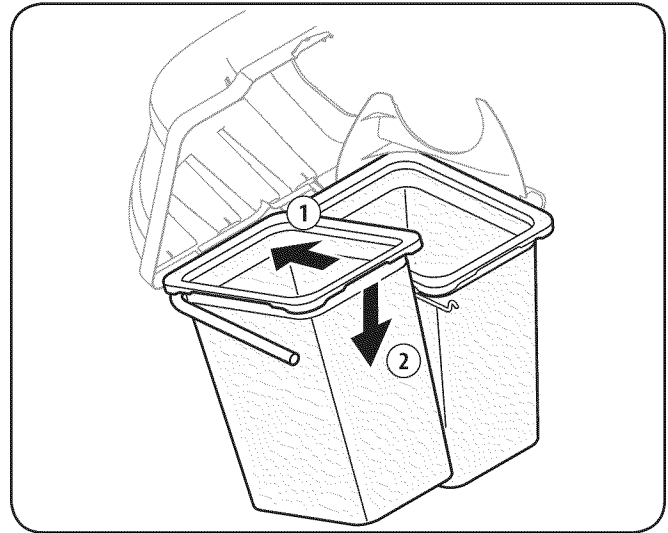

Figure 4-15
8. Install both bag assemblies with the tight mesh sides facing forward, onto the bag support brackets by inserting the front edge in first, as seen in 1 of Fig. 4-15, and setting the back edge down until it fits into the assembly (2).